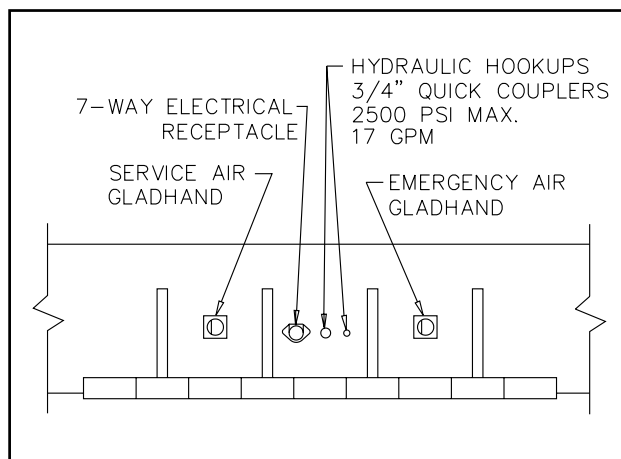

Figure 3-3 Service Hookups
**3-2.3** Connect the service and emergency air hoses of the towing vehicle to their respective gladhand on the front of the semitrailer; red emergency line to the gladhand with the "EMERGENCY" tag, and the blue service line to the gladhand with the "SERVICE" tag (See Figure 3-3). Chock the semitrailer wheels before activating the semitrailer air supply valve in the towing vehicle. Set the parking brakes.
- 3-4.1** Connect the towing vehicle 7-pole electrical plug to the electrical receptacle on the front of the semitrailer (**See Figure 3-3**).